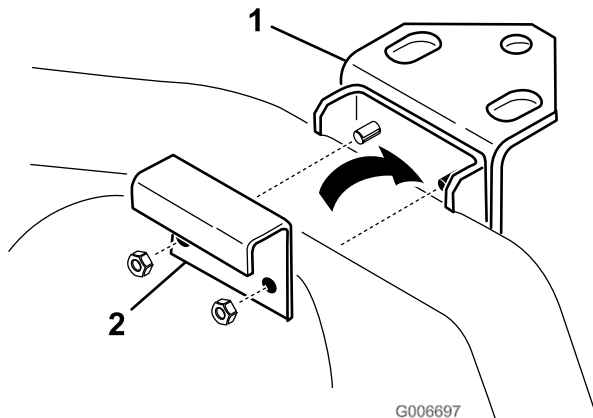

Figure 9
20. Remove locknuts securing hitch plate to rear axle (Figure 9). Loosely mount rear harness switch bracket to rear axle with locknuts removed.